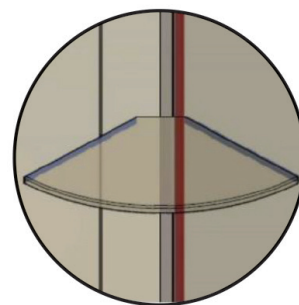

FIG 26.
- After 24-48 hours remove stabiliser blocks (FIG 26).